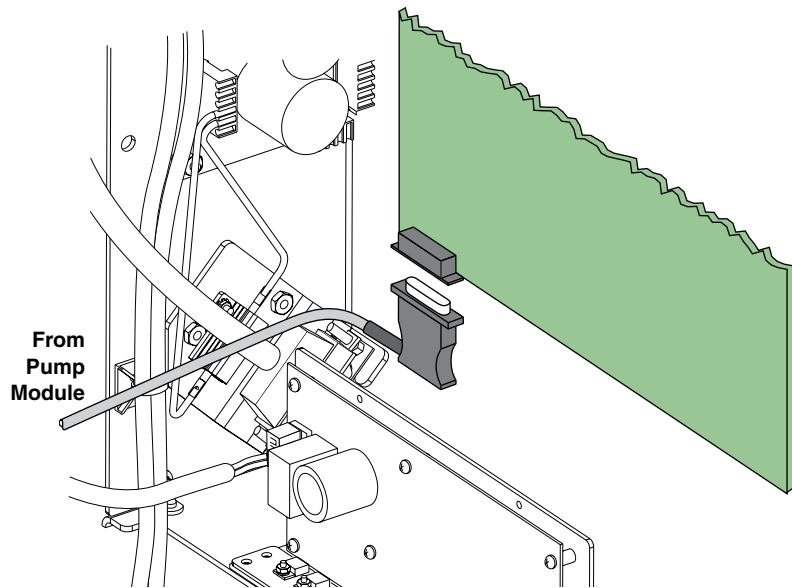

Figure 2-7 J106 Connection on BD1
6. Connect the plug labeled BD1 J106 to J106 on the Controller Circuit Board (Figure 2-7).